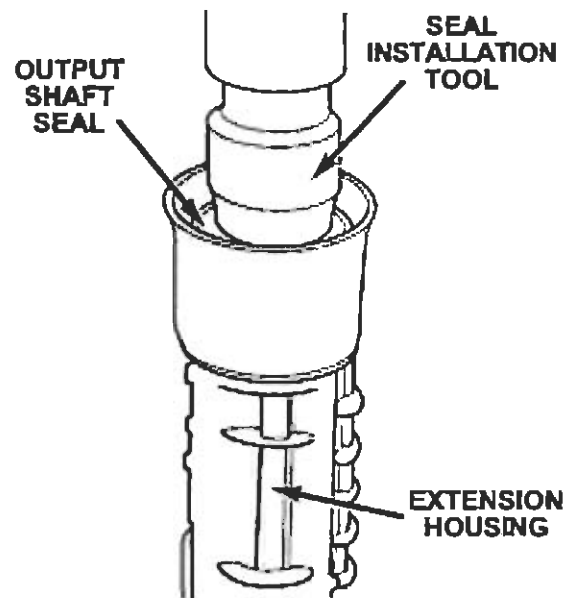

Figure 23
51. Using a 36mm socket, press the output shaft seal into the housing with an arbor press until the new seal contacts the seal seat (Figure 23).